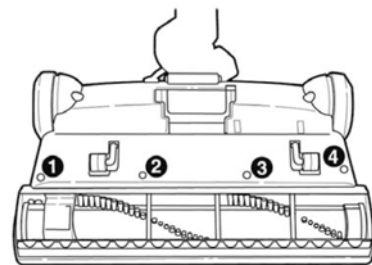

Figure 5.
2. Remove the four screws marked by numbers 1, 2, 3, 4. (see figure 5)